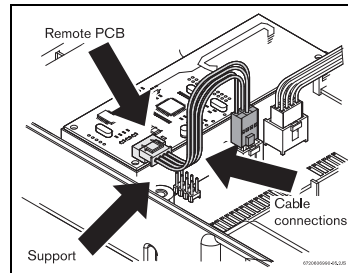

Fig. 5
- ▶ Remove the other protective paper and attach the remote control PCB as shown in Fig. 5.
- ▶ Use the supplied cable to connect between the main PCB and the remote control PCB as shown in Fig. 5.